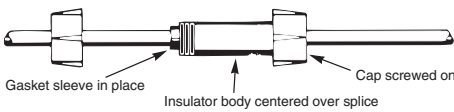

Figure 9
7. Center insulator body over splice and slide neoprene sleeves into body as far as they will go. Screw caps onto insulator body (Figure 9) and tighten by hand for a strong, waterproof splice.